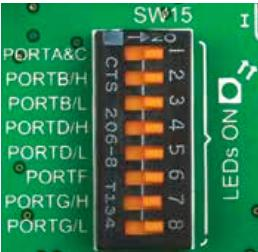

Figure 6-6: SW15.1 through SW15.8 switches are used to enable PORT LEDs
LED (Light-Emitting Diode) is a highly efficient electronic light source. When connecting LEDs, it is necessary to place a current limiting resistor in series with the LED so that LEDs are provided with the current value specified by the manufacturer. The current varies from 0.2mA to 20mA, depending on the type of the LED and the manufacturer. The EasyPIC Fusion™ v7 board uses low-current LEDs with typical current consumption of 0.2mA or 0.3mA. Board contains 68 LEDs which can be used for visual indication of the logic state on PORT pins. An active LED indicates that a logic high (1) is present on the pin. In order to enable PORT LEDs, it is necessary to enable the corresponding DIP switch on **SW15** (**Figure 6-6**).